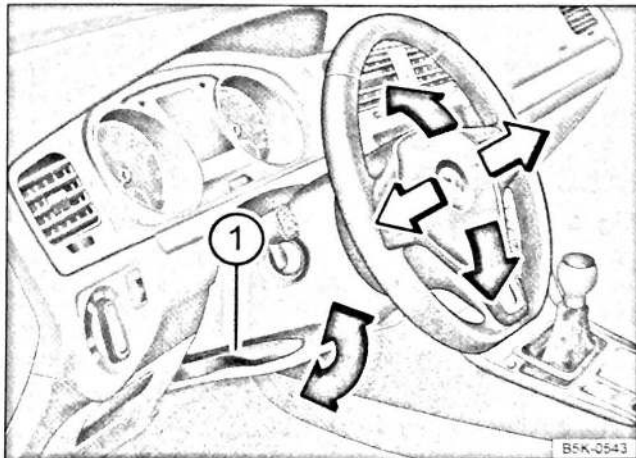

Fig. 50 Adjusting the steering wheel position mechanically
- Push down the lever $\Rightarrow$ Fig. 50 ①.